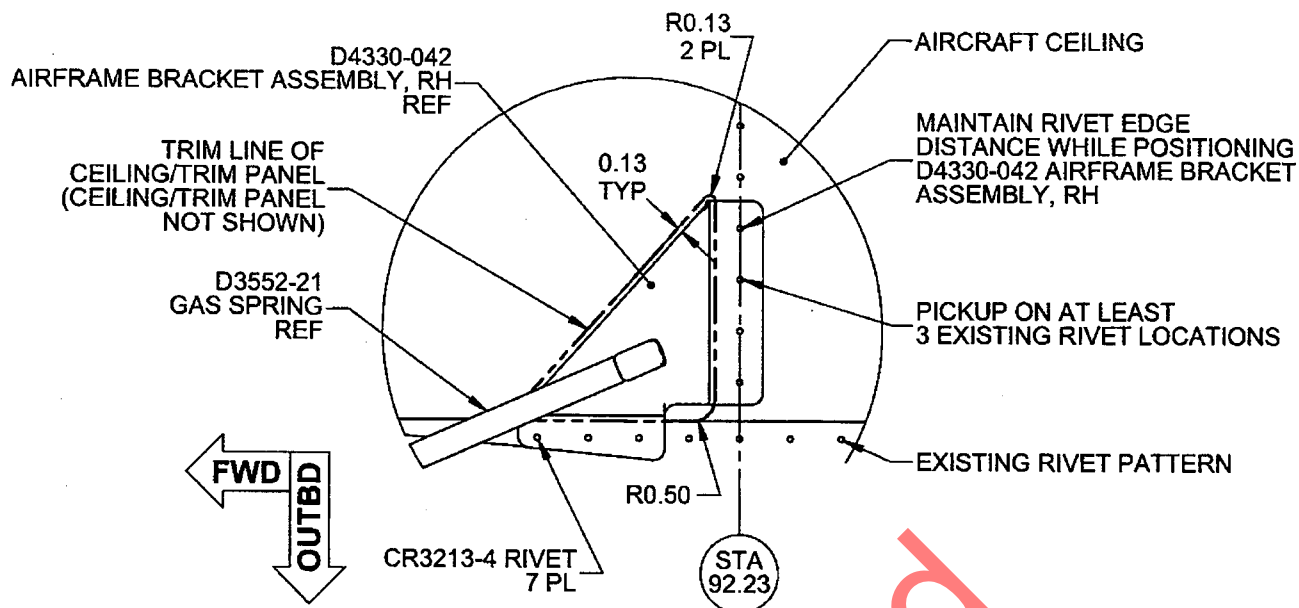
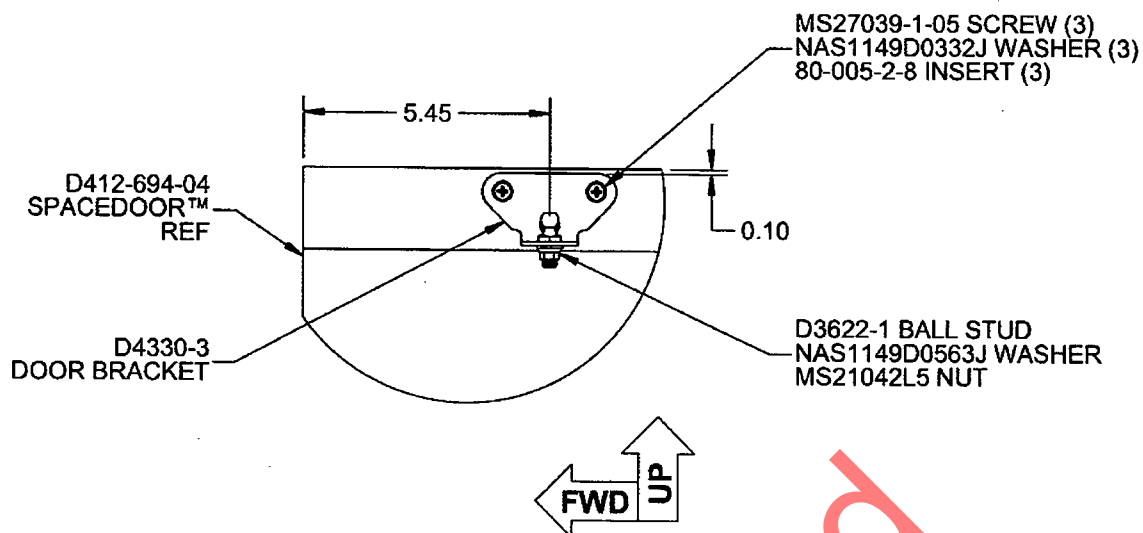

FIGURE 3: LOCATION OF D4330-042 AIRFRAME BRACKET ASSEMBLY
FIGURE 6: LOCATION OF D4330-3 DOOR BRACKET (SPACEDOOR™)
8. Locate D4330-042 Airframe Bracket Assembly, RH on the aircraft ceiling per Figure 3. Transfer drill #30 ($\varnothing 0.129$ ") holes from the ceiling to D4330-042. Deburr holes.
10. Apply a thin layer of Proseal 890 (or equivalent) to facing surface of the D4330-042/-3 brackets. Install the D4330-042 Airframe Bracket Assembly, RH using CR3213-4 rivets as shown in Figure 3. Install D4330-3 Door Bracket using CR3213-4 rivets as shown in Figure 4.
11.  Pre-install the ceiling or trim panels that were removed in Step 1 and transfer mark contour of D4330-041 or -042 as shown in Figure 3 (SHT 5). Remove ceiling or trim panels and perform cutout to clear D4330-041 or -042. Touch-up finish of ceiling or trim panels cutout area in accordance with aircraft maintenance manual and re-install any ceiling or trim panels.
8. Locate D4330-042 Airframe Bracket Assembly, RH on the aircraft ceiling per Figure 3. Transfer drill #30 (Ø0.129") holes from the ceiling to D4330-042. Deburr holes.
9. Locate D4330-3 Door Bracket on the Spacedoor™ per Figure 6. Using Figure 7 as a guide for the approximate locations of the mounting holes, drill 3x #7 (Ø0.201") holes in D4330-3 and the inner door skin. Enlarge holes in Spacedoor™ inner skin to 9/16" (Ø0.5625").
11. Apply a thin layer of Proseal 890 (or equivalent) to faying surface of the D4330-042/-3 brackets. Install the D4330-042 Airframe Bracket Assembly, RH using CR3213-4 rivets as shown in Figure 3. Install D4330-3 Door Bracket using hardware as shown in Figure 6.
12. Pre-install the ceiling or trim panels that were removed in Step 1 and transfer mark contour of D4330-041 or -042 as shown in Figure 3 (SHT 5). Remove ceiling or trim panels and perform cutout to clear D4330-041 or -042.
13. Install a D3622-1 Ball Stud on the D4330-3 Door Bracket using hardware specified in Figure 6.